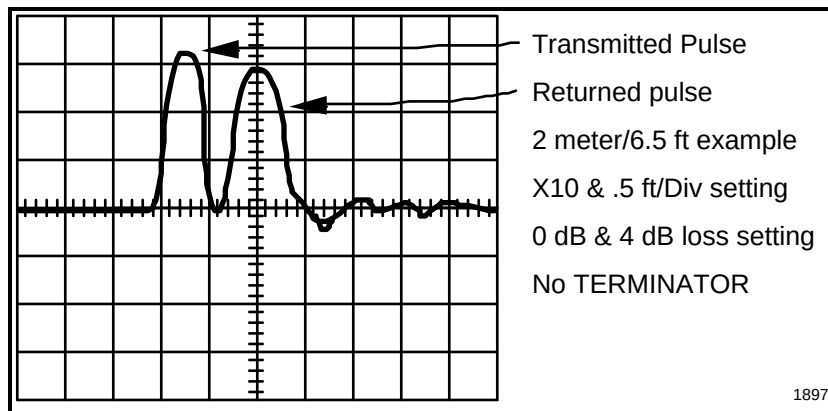
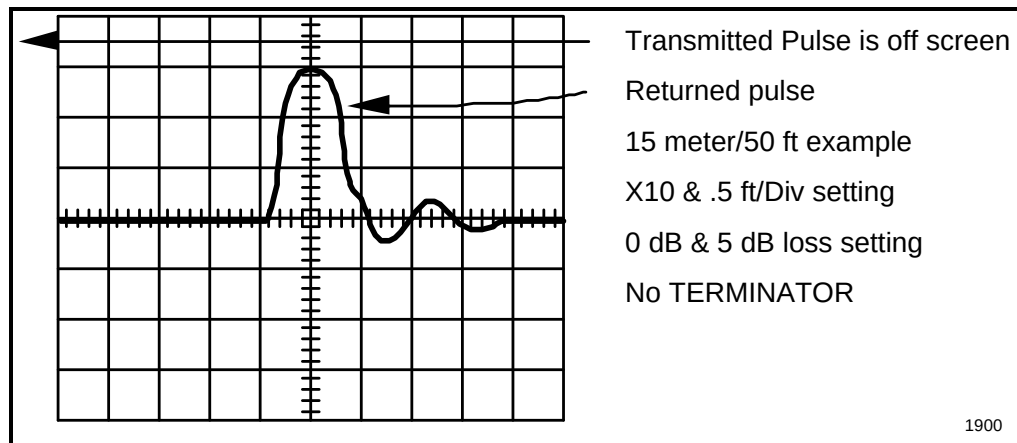

Figure C-4
Figure C-7
6. Ensure that the screen looks like Figure C-4 or Figure C-7.